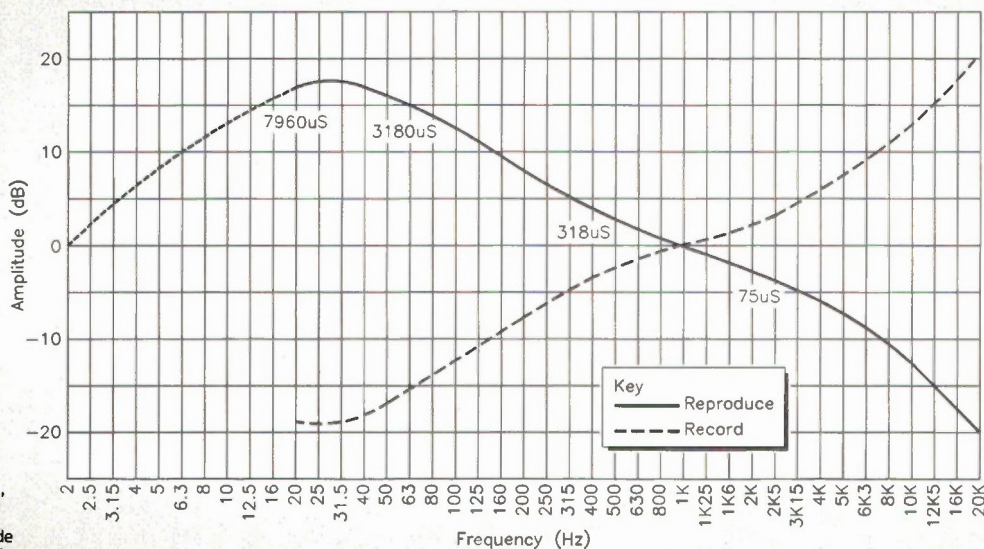

Figure 11. 'New RIAA' (DIN) recording and reproduction amplitude response characteristics.
50.5Hz and 2122Hz are the two main break frequencies (poles), with the frequency response rolling off at 6dB/octave above the 2122Hz frequency. The gain should, ideally, asymptote to zero. This may or may not be the case, depending upon which type of feedback is employed. We shall discuss this point further at a later stage. 500Hz is the zero and the third point of interest. Figure 11 shows the DIN curve, with the extra time constant at 20.2Hz highlighted on the playback curve.